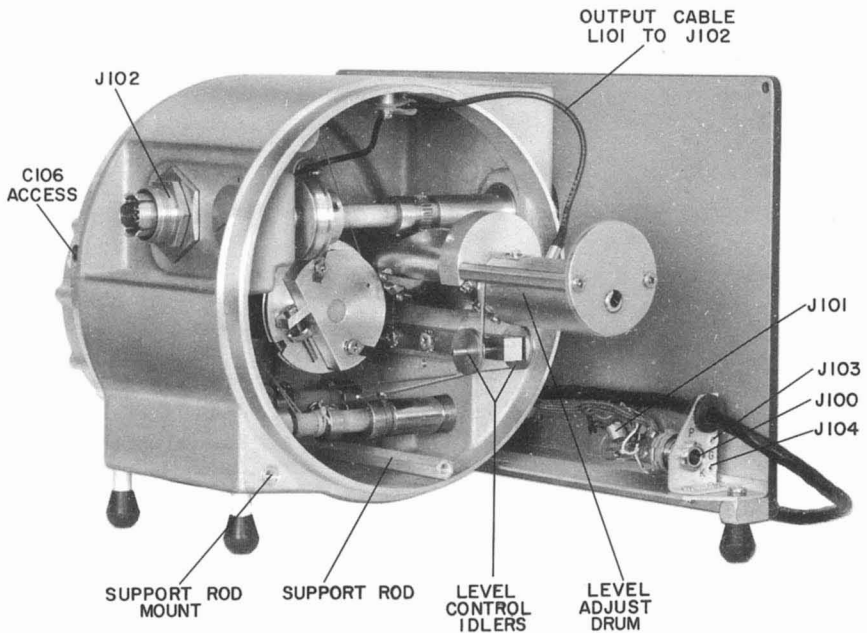

Figure 6-2. interior view of the Type 1218-B oscillator with left-hand shield can removed. Support rod is shown in storage position.
Location of test points and detail parts can be accomplished by reference to Figures 6-2 through 6-6. Identification of parts on these figures corresponds to designators appearing in the over-all schematic diagram, Figure 6-7, as well as in the parts list at the end of this section.
6.4.2 PRELIMINARY ANALYSIS (Figure 6-2).
the screws around its periphery have been removed. Preferably do this with the instrument standing on its left end. For convenience, the 5 3/4-inch-long rod, normally stored inside the main casting (left), or used to attach a power supply, will serve as a support. It mounts in the tapped hole near the left rear foot. (See Figure 6-2).
There are several moving parts visible after removal of the left-hand shield cover (Figures 6-2 and 6-6), which may require lubrication. As listed below, apply the grease described above, or light, nongumming machine oil. Lubrication is recommended when one of the following squeaks or fails to turn smoothly.
So that the tuning screw can be set to the required position, the exposed end of the screw is slotted to accept a small screw driver. Access is obtained through a hole in the rear of the main casting (Figure 6-2).